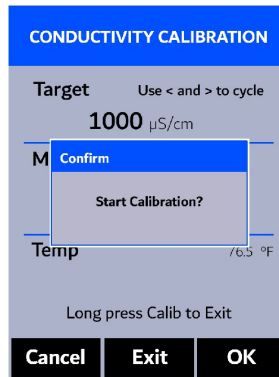

Figure 7.
7. The display updates as shown in Figure 7 and the user can choose one of three options: